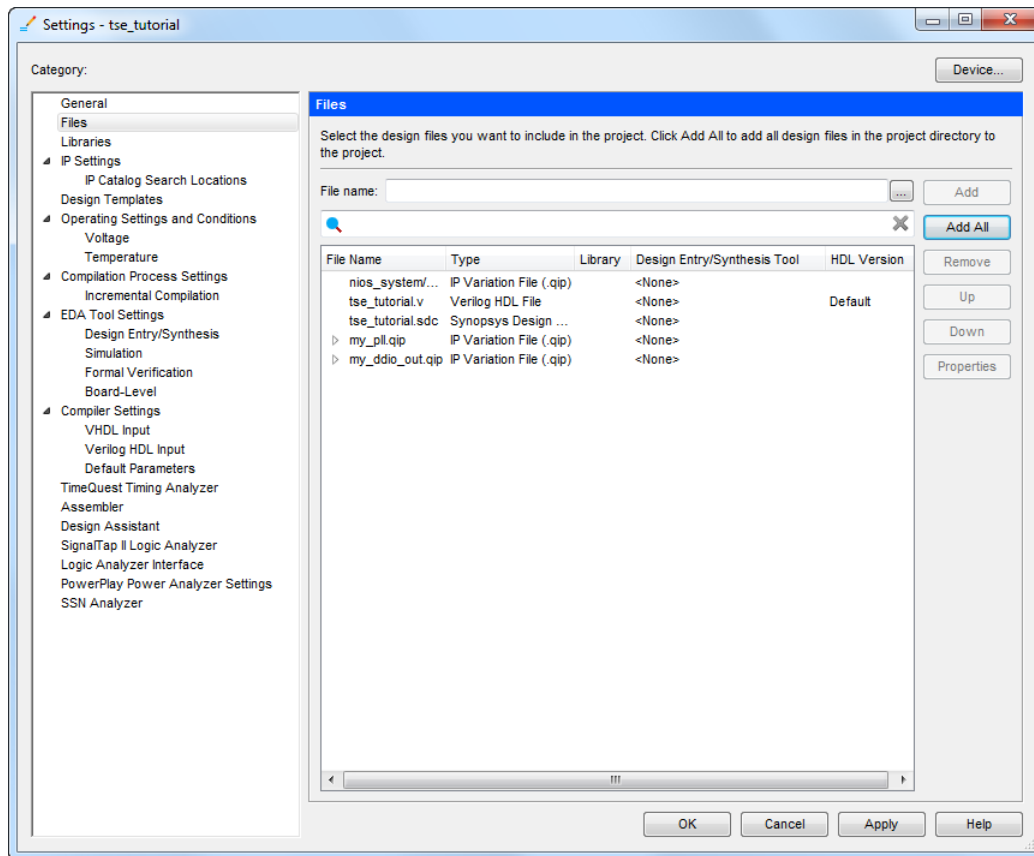

Figure 19. Settings for Files included in the Project.
2. Select **Assignments > Settings...** to add the `tse_tutorial.v`, `tse_tutorial.sdc` and `nios_system.qip` files to the Quartus Prime project. Along with the `.qip` files for the two modules generated by the IP Catalog before, all the files included in the project are shown in Figure 19.